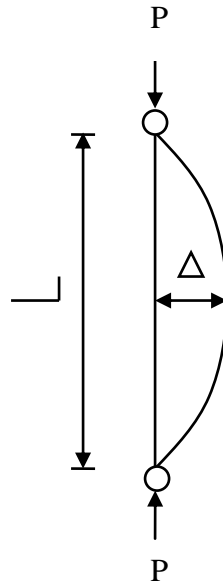

Fig. 4.0
4. Figure 4.0 shows a single bay fixed base portal frame which has been constructed with steel grade S275, using the plastic theory of design. Details of the frames and loading are given below :-
5. (a) A prismatic bar with hinged ends, Fig. 4.0, is subjected to the action of axial force. Find the buckling load by assuming the initial deflection of the bar is zero. Also explain the physical meaning of the equation, if $n = 1$.